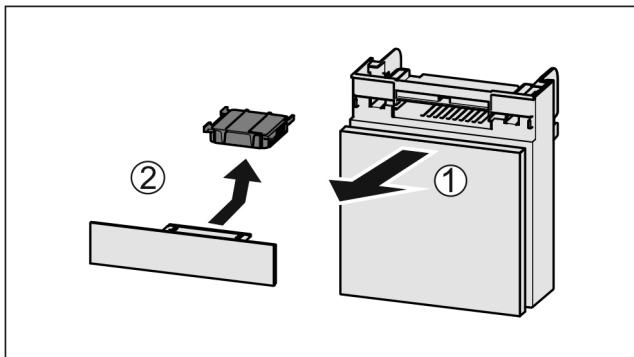

Fig. 145
- ▶ Pull out the compartment Fig. 145 (1).
- ▶ Remove the carbon filter Fig. 145 (2).